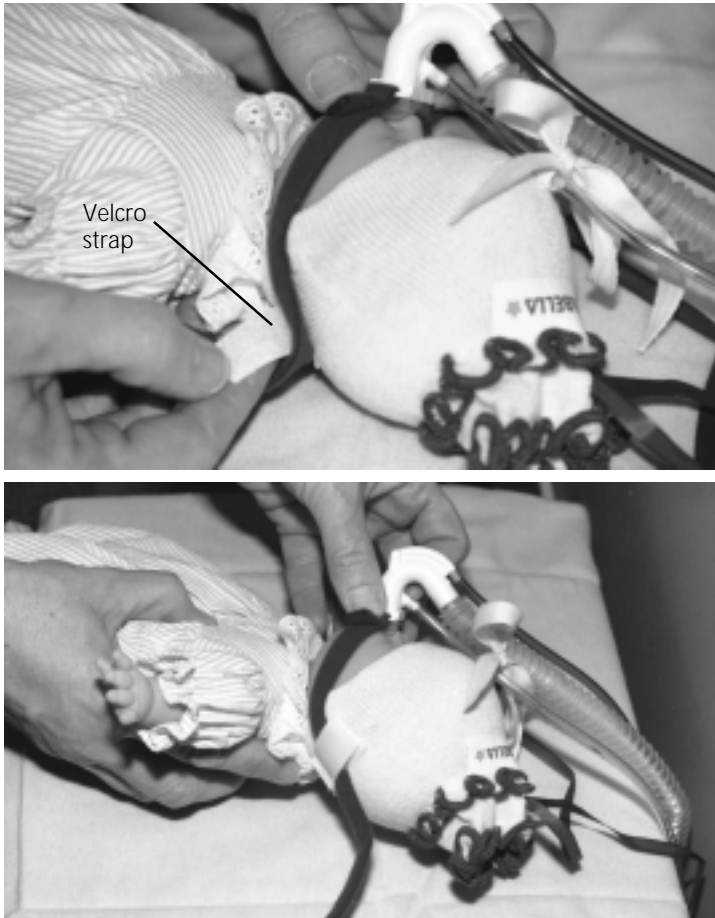

Figure 3-8. Attaching Generator/prongs to Cap
6. Attach the blue foam straps from the Generator/prongs to the Cap as follows. Open the VELCRO[®] tabs on either side of the Cap (Figure 3-8), and position the blue foam straps to the VELCRO. Close the tabs to secure the straps. The straps are *not* adjustable at the Generator connection.